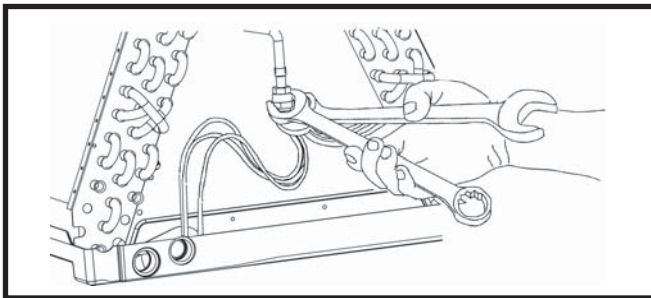

Figure 2. Loosening of Nut & Distributor Body
1. Using two wrenches, loosen the nut and distributor body as shown in Figure 2. Turn the assembly nut counter-clock-wise until the orifice body halves are separated.